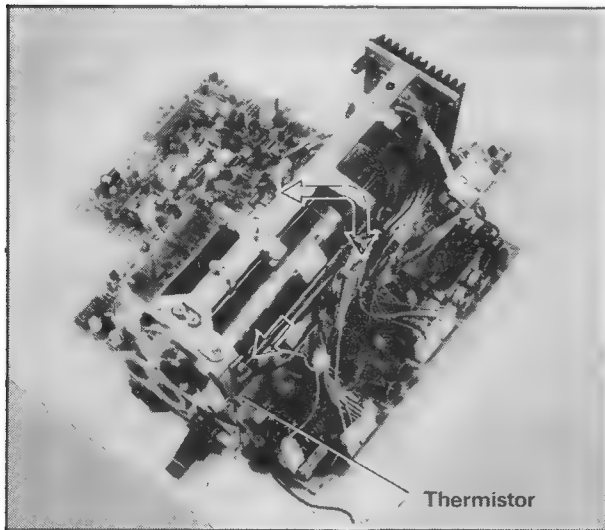
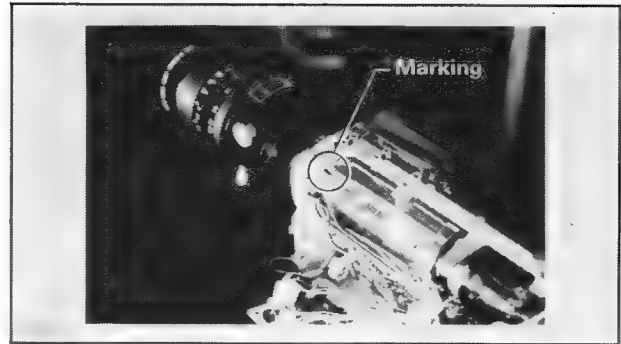

Fig 7.20 DY Securing Screws
Fig 7.21 DY and Body Frame Alignment Marking
- (1) Loosen the two DY securing band screws and one DY screw as indicated by Figure 7.20
- (2) Set the camera body level and shoot a subject such that the horizontal line can be confirmed on the TV monitor. Then, rotate the DY until the picture on the TV monitor is level
- (3) When the DY horizontal line is correctly aligned, apply alignment markings to the DY and the body frame as shown by Figure 7.21